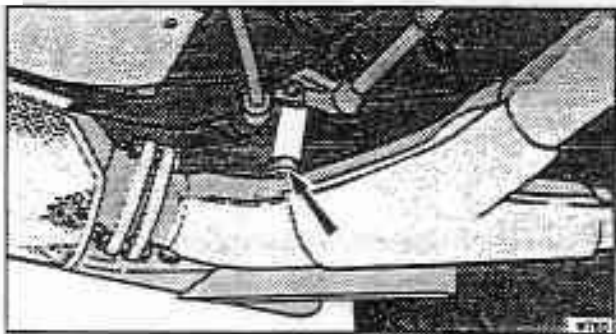

Fig. H2-8 Oxygen sensor
- 34. On cars other than Turbocharged models remove the front exhaust silencer/s. Disconnect the oxygen sensor connection on cars fitted with catalytic exhaust systems (see fig. H2-8). On Turbocharged cars, disconnect the exhaust at the joint forward of the front silencers. Support the exhaust system and disconnect